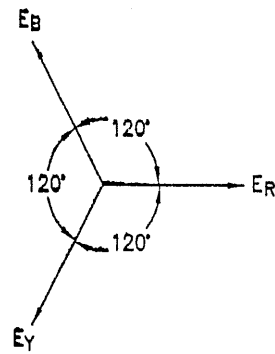

FIG. 2.77 : PHASOR DIAGRAM OF THREE PHASE EMFS
- The phasor diagram of rms values of emfs is shown in Fig. 2.77. If we consider E_R as the reference emf, then